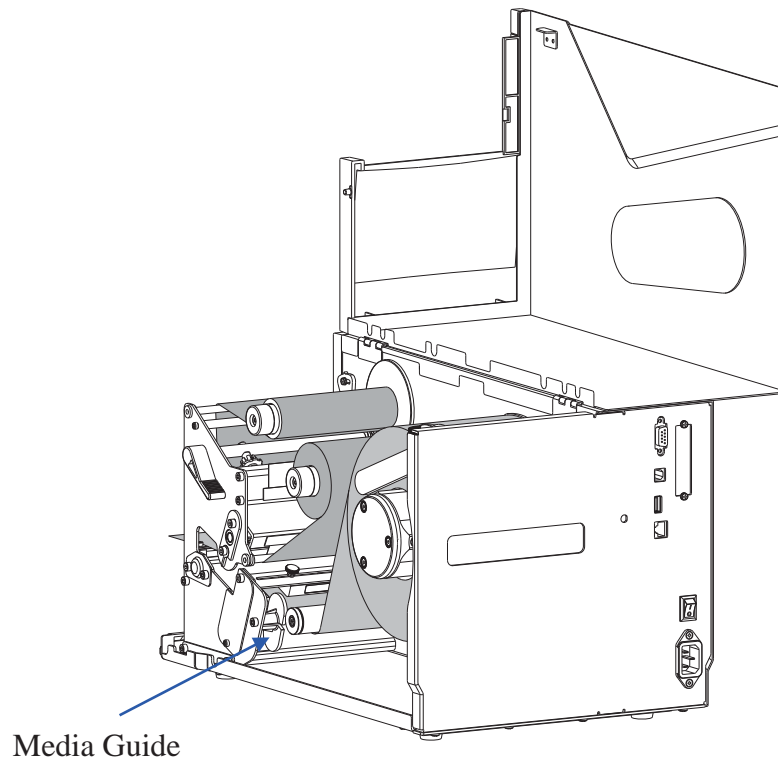

Figure 2-24 Slide the Media Guide
3. Slide the Media Guide to the edge of the media, making sure not to pinch or squeeze the media; keep the media flat and smooth. As shown in Figure 2-24.